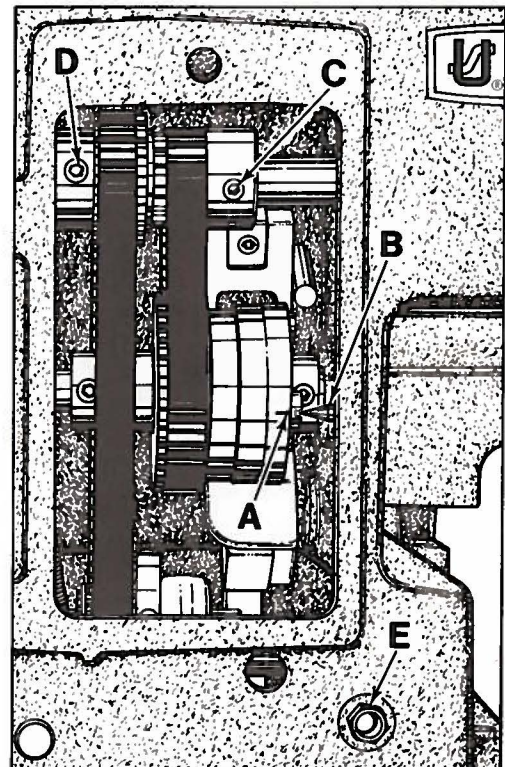

Fig. 11
When machine is set 3 to 1 or 2 to 1 skip stitch and the point of needle moving to the right is over center of ridge former width, with back cover open, timing line on cam (A, Fig. 11) should line up with pointer (B) in arm. If adjustment is necessary, turn handwheel in operating direction until the timing mark on cam (A) is in view in the rear opening as close to the pointer (B) as possible, ASSURING that the needle point is located over the center of the ridge former width. Loosen screws in sprocket (C) and position cam as required. Tighten screws in sprocket and close back cover.
NOTE: In the 2 to 1 machine, for every (1) revolution of the handwheel, the cam (A, Fig. 11) rotates (1/2) revolution.
In the 3 to 1 machine, for every (1) revolution of the handwheel, the cam (A, Fig. 11) rotates (1/3) revolution.
The needle moving from left to right should be timed with the ridge former so that when the ridge former has reached its farthest travel to the rear, the point of the needle is over the center of the width of the ridge former. To make this adjustment, swing open arm back cover and loosen screws in sprocket (D, Fig. 11). Turn handwheel until the point of the needle is over the center of the width of ridge former. Now, while holding handwheel to keep the point of the needle over the ridge former, rotate sprocket (D) forward or backward slightly, until the ridge former has reached its farthest travel to the rear.
For average sewing, the cylinder main spring pressure is set correctly when the end of spring adjusting screw is inside end of hexagonal head nut (E, Fig. 11) 5/16 inch (as viewed from rear of machine). More cylinder pressure is obtained by adjusting the nut clockwise and less pressure is obtained by turning the nut counterclockwise.